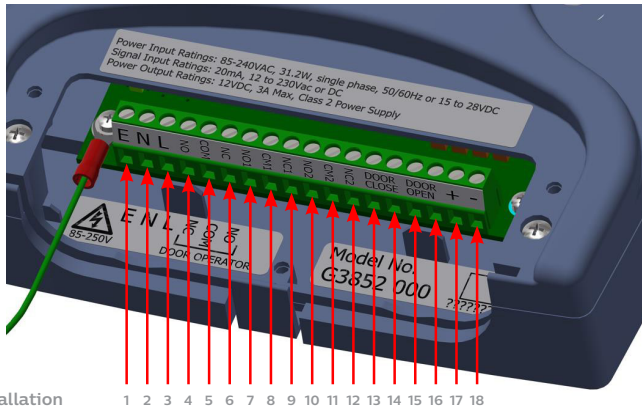

Fig 3: Installation
2. Connect the Controller with the correct supply voltage and Inputs (see Fig 3 below).